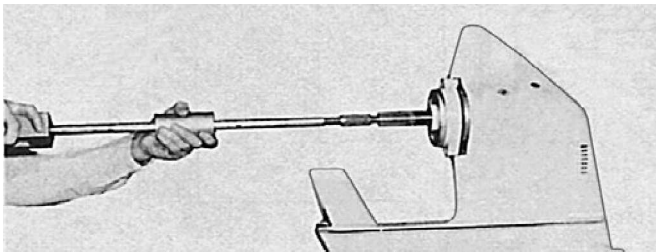
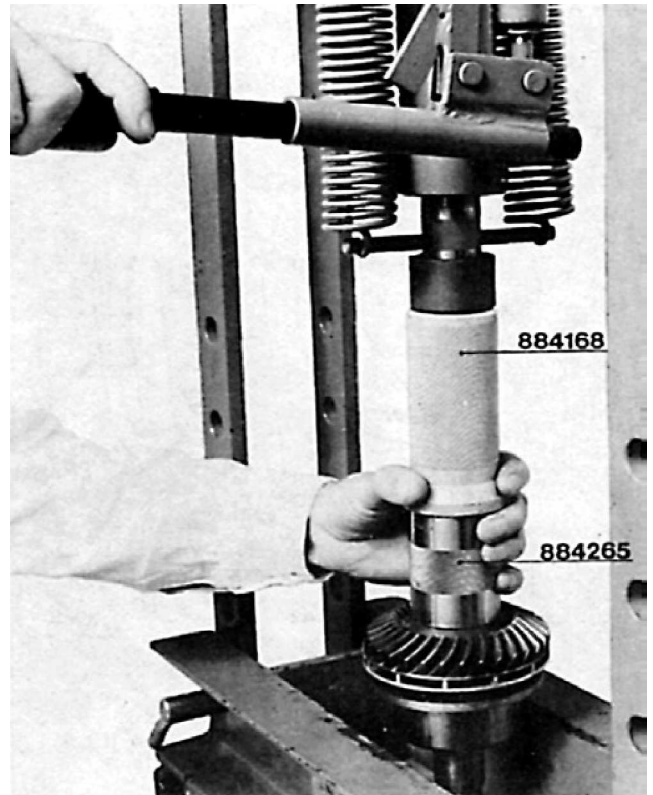

Fig. 29.
Fig. 30.
2. Remove the two screws (7, Fig. 59) retaining the propeller bearing housing (3). Remove the propeller shaft (11) and the propeller bearing housing with the help of tool 884161, see Fig. 29. When the propeller bearing housing has been removed, unscrew the tool and pull out the housing by hand. If the above tool is not available, removal can be done by holding the propeller shaft and striking the gear housing with a rubber mallet until the propeller shaft together with the propeller bearing housing loosens from the gear housing.
3. Unscrew the washer (26) and the 6 nuts from the propeller bearing housing, tap the propeller shaft out of the bearing housing.
4. Bend up the lock washer (20) and unscrew the round nut (21) on the propeller shaft.
5. Press the gear (22) and bearing (19) off the propeller shaft at the same time. Use tools 884265 and 884168, see Fig. 30,
6. Remove the lock washer (23) and the pump impeller (25) from the gear.
7. Tap the two sealing rings (32) out of the propeller bearing housing.